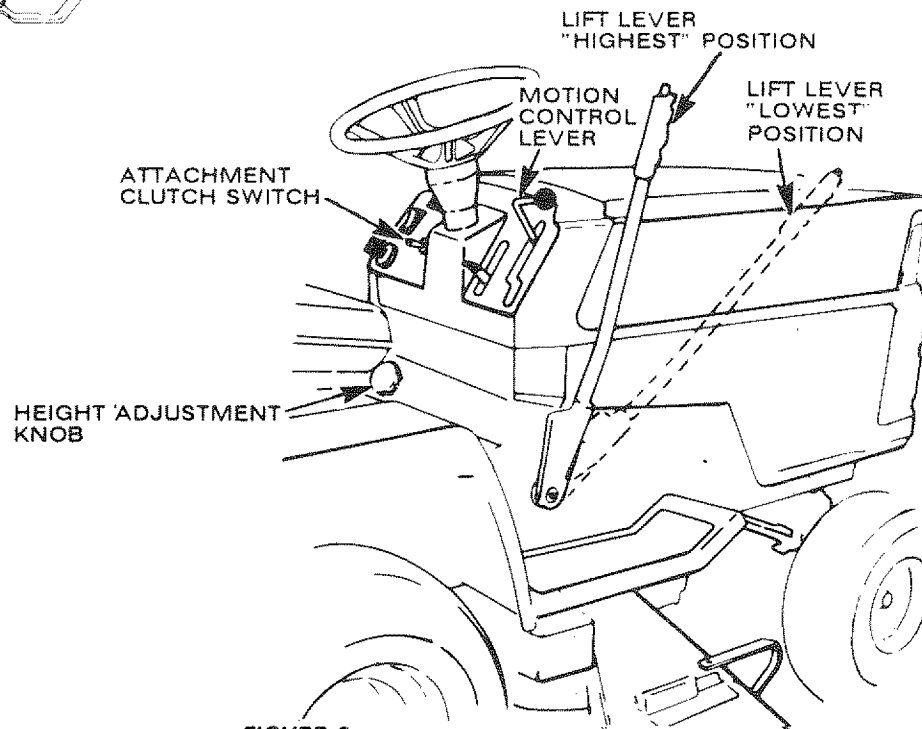

FIGURE 9
- a. Raise lift lever (Fig. 9) to its highest position.
- b. Turn height adjustment knob counterclockwise (↺) to lowest position (Fig. 9).
- a. Place attachment clutch switch in "disengaged" position (Fig. 9).
- c. Move attachment lift lever (Fig. 9) forward to lower mower to its lowest position.